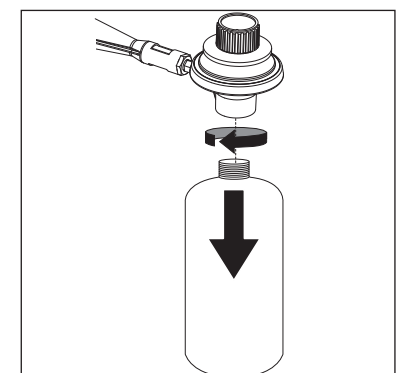

Figure 5
Note: The brass nut should be ¼ to ½ turn past tight. The regulator will rotate 360° even when the brass nut is tightened. If your unit was assembled for you, visually check the connection between the burner and regulator/control knob (Figure 5).
3. Spoon the leak detection check solution on all “X” locations (Figure 5).